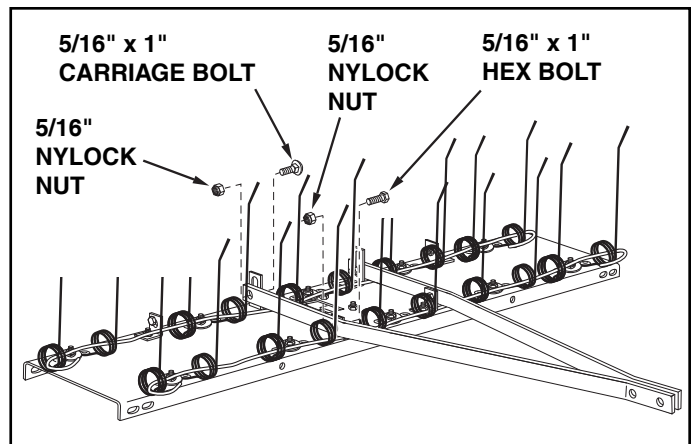

FIGURE 2
- Fasten the hitch mount arms to the outside of the front angle brackets. Use two 5/16" x 1" hex bolts and 5/16" nylock nuts. **Tighten, then loosen** the nuts slightly. See figure 2.
- Fasten the hitch mount arms to the outside of the rear hitch arm mount brackets. Use two 5/16" x 1" carriage bolts and 5/16" nylock nuts. **Do not tighten yet.** See figure 2.
- **Tighten** the rear bolts and nuts assembled in figure 2.